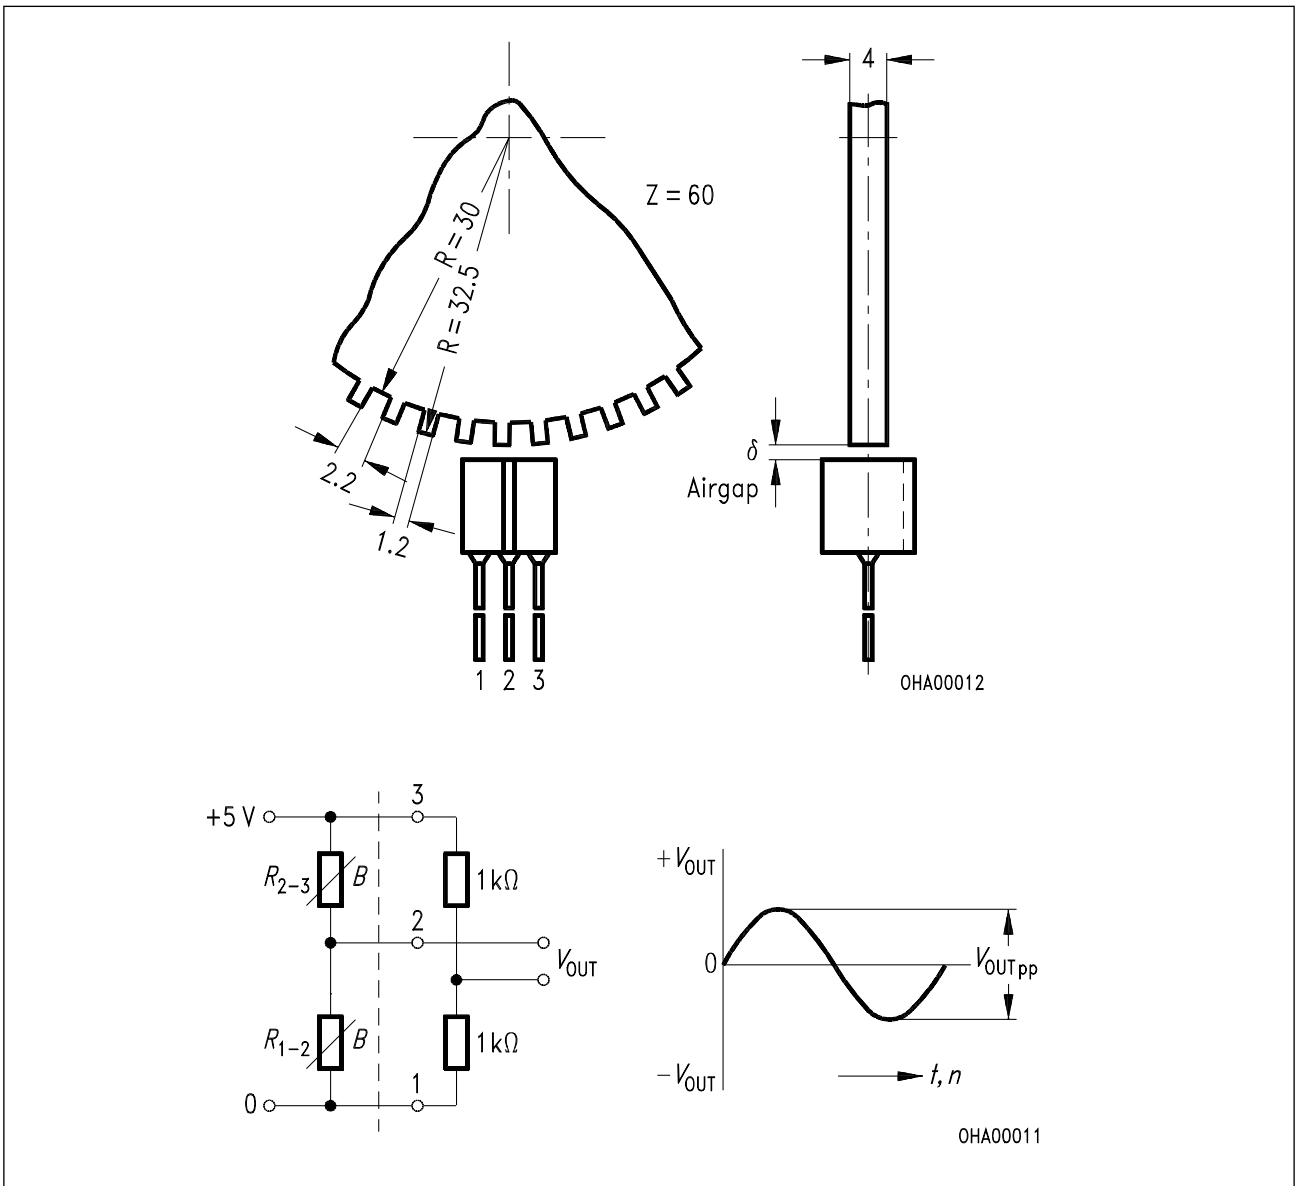

Fig. 1
5) Corresponding to measuring circuit in **Fig. 2** and arrangement as shown in **Fig. 1**
For digital revolution counting, the sensor should be actuated by a magnetically soft iron toothed wheel. The tooth spacing should correspond to about twice the magneto resistor intercenter spacing (see Fig. 1).